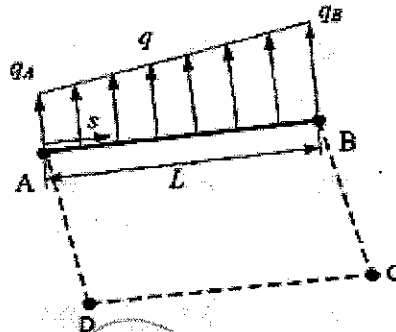

Figure: 3
- b) The traction on a four noded element ABCD is as shown in figure 3. Derive the equivalent nodal force vector.